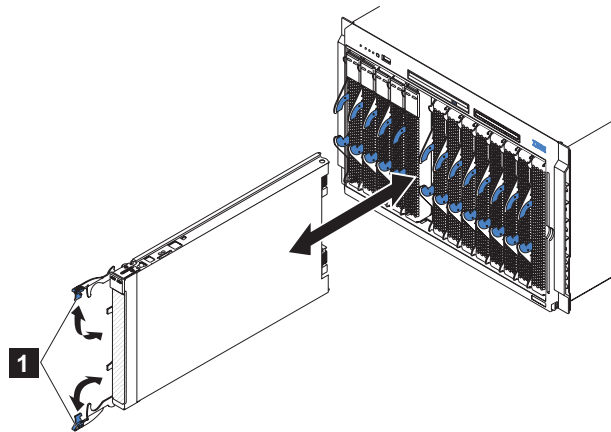

Figure 11. Removing the blade server from the BladeCenter unit
5. Open the two release handles, as shown by **1** in Figure 11 on page 255. The blade server moves out of the bay approximately 0.6 cm (0.25 inch).